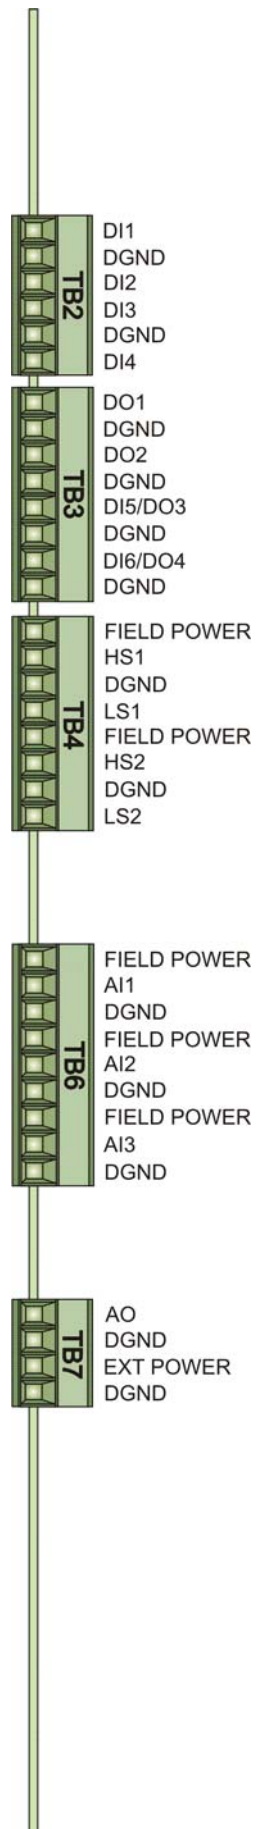

Figure 4-7 - Process I/O Board Edge View (Connector Identification)
4.3.1 Process I/O Board Connectors (see Figure 4-7 & Table 4-4)